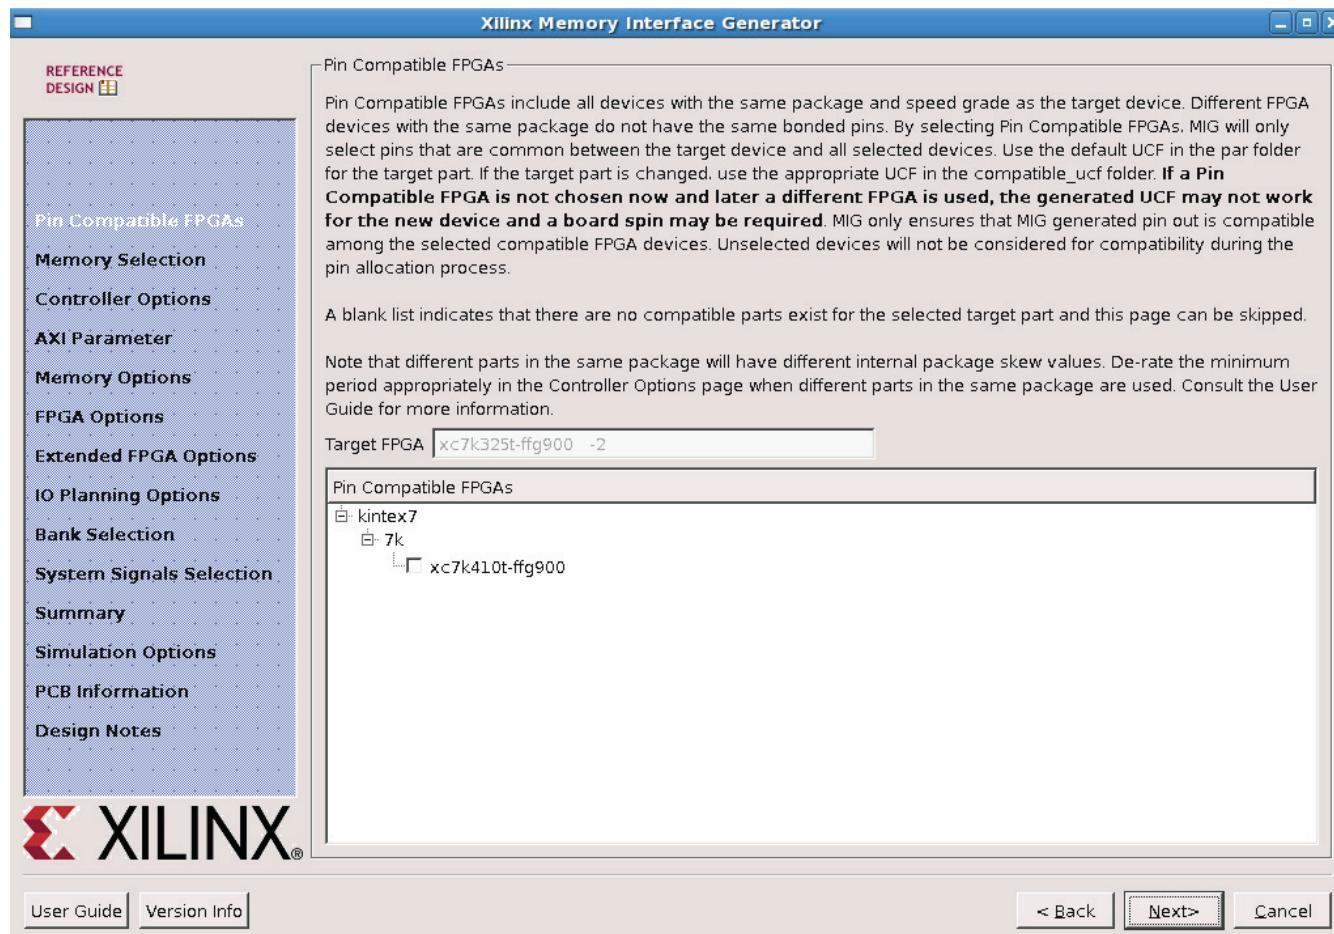

Figure 31: MIG Pin-Compatible Kintex-7 FPGAs
18. For Pin Compatible FPGAs settings, click **Next** (Figure 31). This page is normally used for a new board pinout definition that is desired to be compatible across multiple devices in the same package.